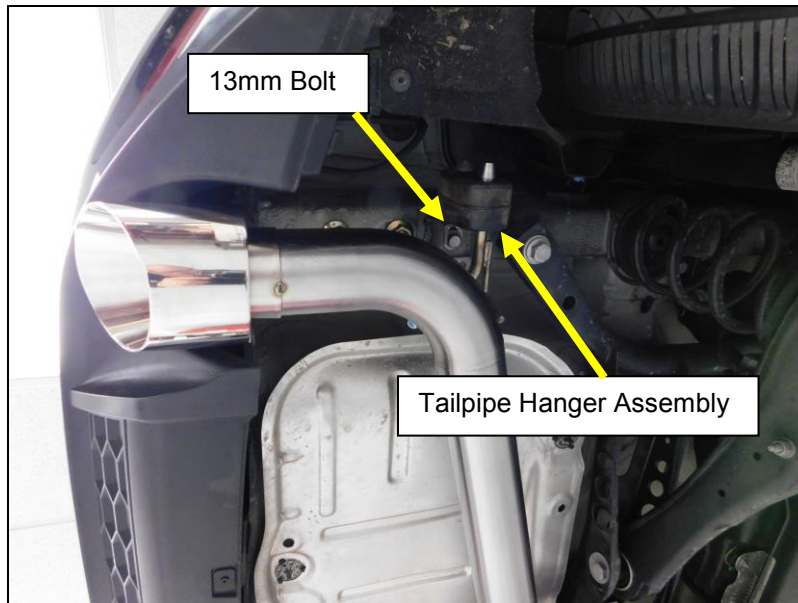

Figure 3
NOTE: The hanger assemblies will be installed in the opposite direction as the OEM configuration with the rubber isolator on the outboard side of the frame rail when installed (**Figure 3**).
4. Install the Blackheart tailpipe assembly into the vehicle and install a 13mm bolt into each hanger bracket using a 12 inch extension with a universal and a 13mm socket. **NOTE:** 13mm swivel socket also works well (**Figure 3**).